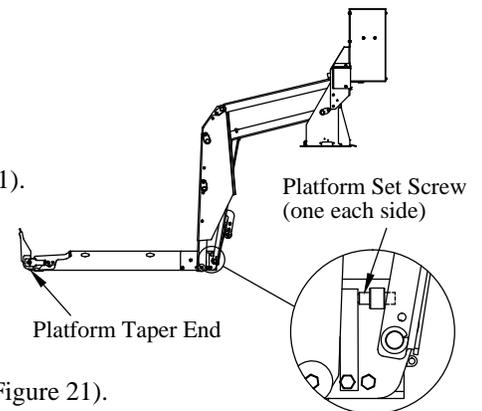

Figure 21: Platform.
3. **Adjust** the platform set screws until the platform taper end rests on the ground (Figure 21).
6. **Adjust** each bridge close wheel so that it is tight against the bottom of the bridge plate (Figure 21).